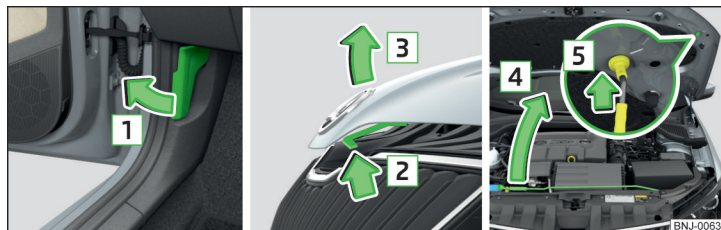

Fig. 144 Opening the bonnet
- Pull the release lever under the dash panel in the direction of the arrow **1** » Fig. 144.
Never open the bonnet by the locking lever » Fig. 144.